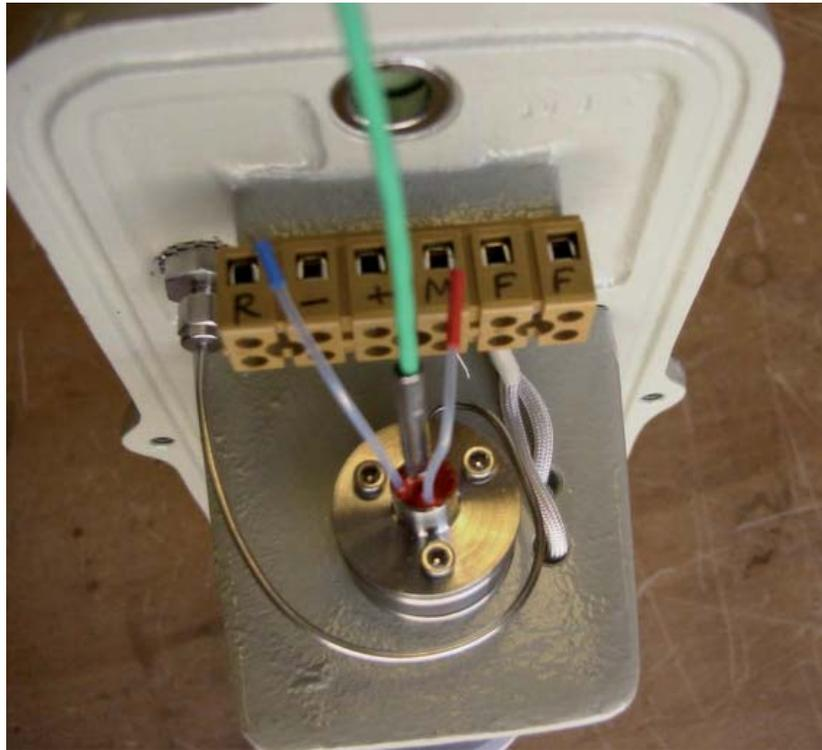

Figure 17 XZR500 Top View
- Re-insert the clean sealing head, the new MSRS (Ref 204 011) and new o-rings (Ref 108 006) (see *Figures 17 and 18*).